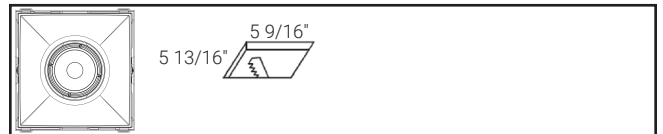

Figure 5.
- 1 Light Engine: 5 9/16" X 5 13/16" (Figure 5)